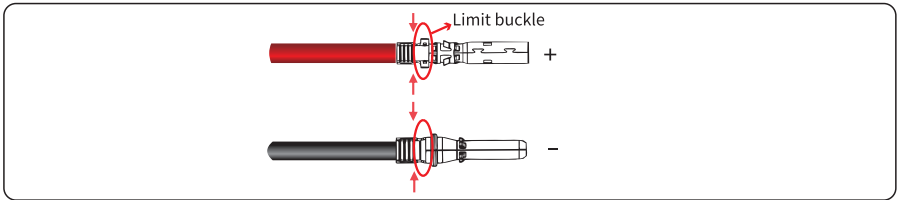

Figure 5.8 Crimping a metal connector
**Step 2** Insert the exposed areas of the positive and negative power cables into the metal terminals of the positive and negative connectors respectively and crimp them using a crimping tool, as shown in Figure 5.8.